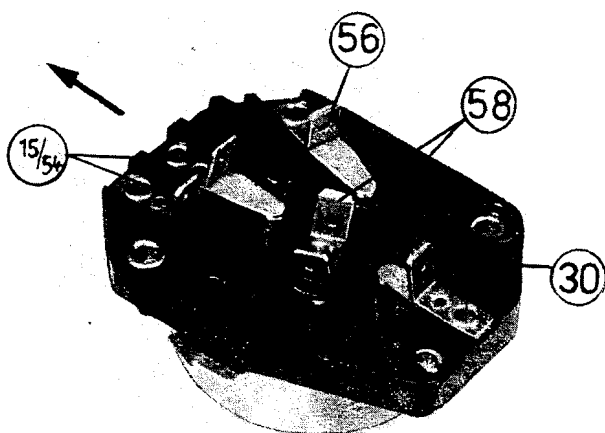

Fig. 178. Connections of the ignition-light switch
The ignition-light switch shown in Fig. 178 cannot be used for the older MZ-types because the former switch position (5)